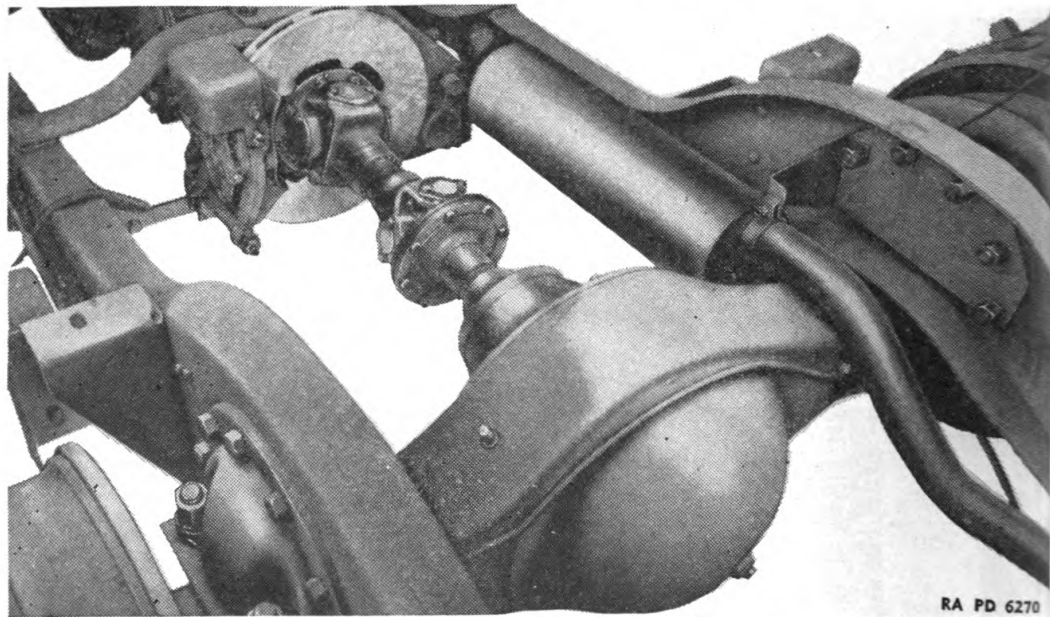

FIGURE 43.—Rear axle (jackshaft) assembly, installed.
**18. Description** (fig. 43).—The rear axle (jackshaft) is of the spiral, bevel gear, single reduction, full floating type.